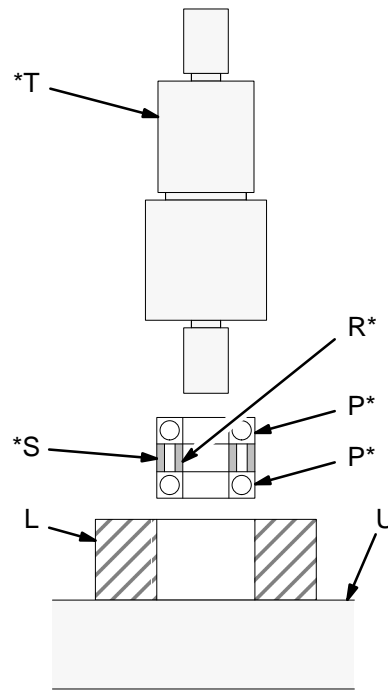

Fig. 7
1. Place a gear on a flat surface. Position the bearings (P*), spacers (R* and S*) and the bearing tool (T*) as shown in Fig. 7.